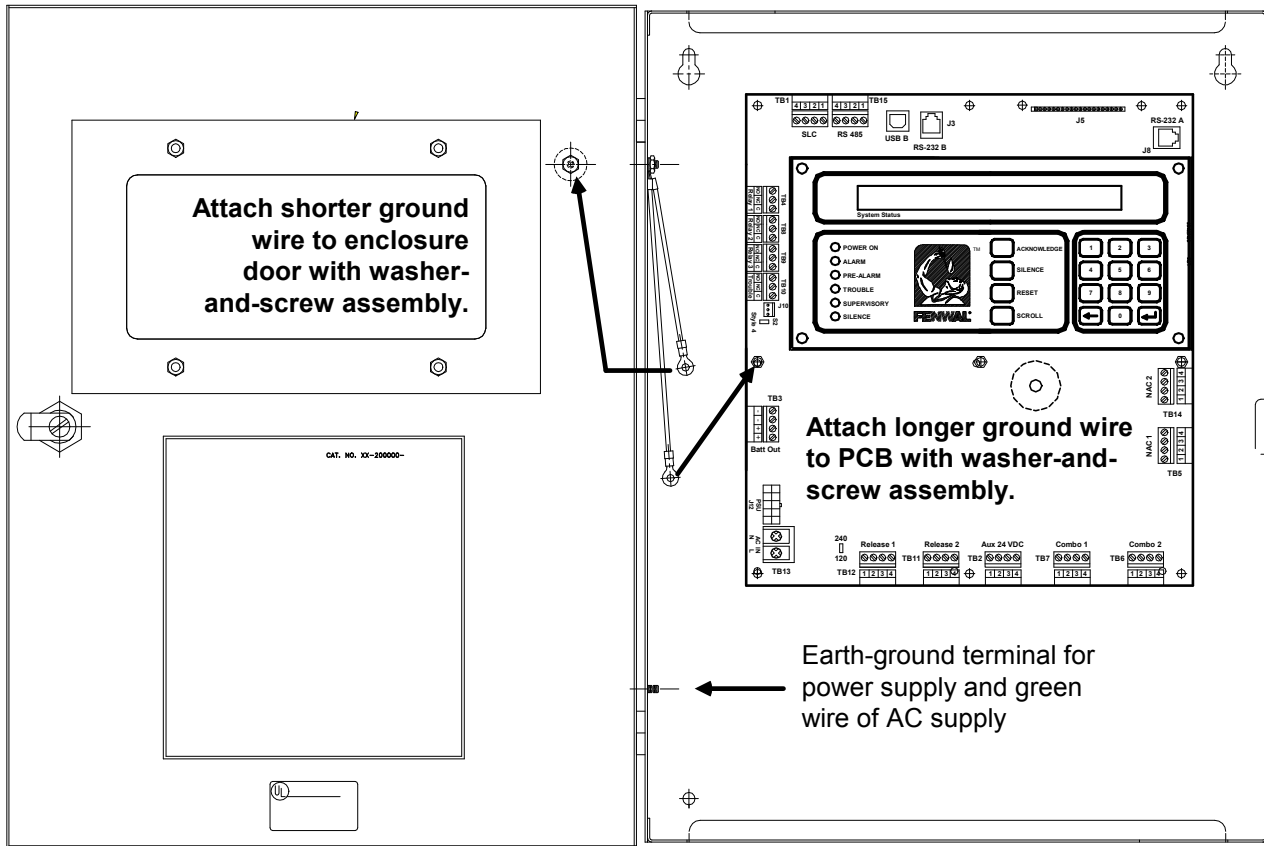

Figure 2-7. PCB-to-Cabinet Grounding Diagram
5. Refer to Figure 2-7 and place the free end of the longer of the two factory-installed Earth-Ground wires under the screw assembly of the main printed-circuit board as shown before tightening. Tighten the remaining eight screws. Be careful not to over-tighten.